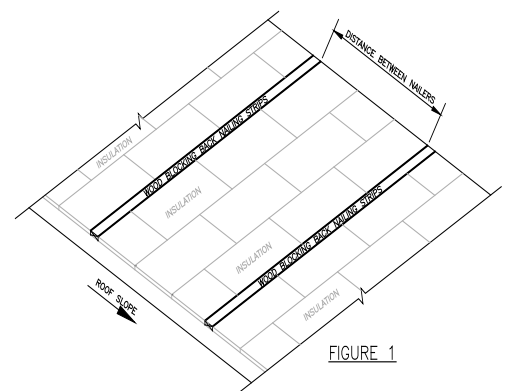

FIGURE 1
3. For slopes from 1-1/2" per foot to 3" per foot, nailers must be installed perpendicular to the direction of the slope and spaced a maximum of 32' apart (see Figure 1) when the insulation is attached with fasteners or an approved low rise foam adhesive (as determined by deck type).
4. For slopes from 1-1/2" per foot to 3" per foot, nailers must be installed perpendicular to the direction of the slope and spaced a maximum of 16' apart (see figure 1) when insulation is attached with hot asphalt (as determined by deck type).
nailers must be installed perpendicular to the direction of the slope and spaced a maximum of 16' apart (see Figure 1) when insulation is attached with fasteners or an approved low rise foam adhesive (as determined by deck type).
6. For slopes greater than 3" per foot to slopes to 6" per foot, nailers must be installed perpendicular to the direction of the slope and spaced a maximum of 8' apart (see Figure 1) when insulation is attached with hot asphalt (as determined by deck type).